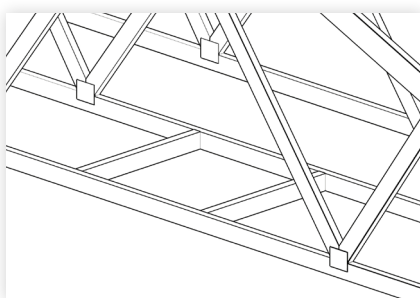

figure 3
1. The SC30 Attic Ladder is specifically designed to fit lengthways between trusses fitted at 900mm centres (figure 3)
3. Frame up the opening using minimum **190mm x 45mm** framing timber (H1.2 treated, machine gauged radiata pine or similar). It may be necessary to cut through some existing ceiling joists to achieve the required size. Ensure these are properly supported during and after cutting. The possible arrangement is shown in figure 3.